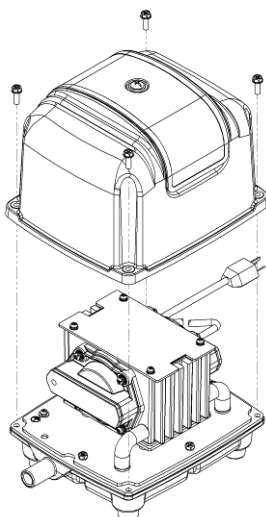

Figure 2
- Loosen the four screws around the aluminum upper housing, and take the housing off. (As shown in figure 2)